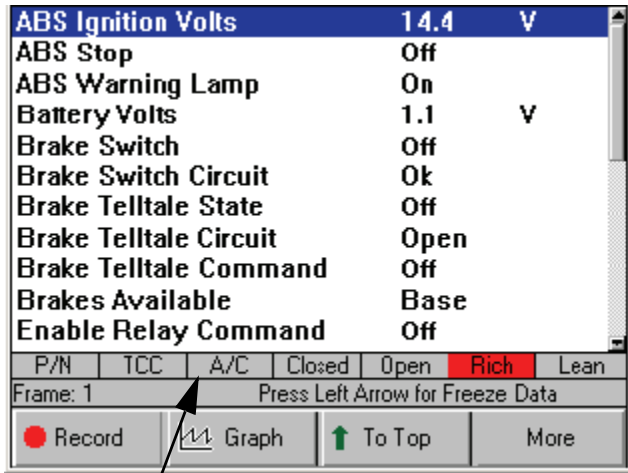

Figure 7.22: Datastream Screen - LED Bar Displayed
- 3 Press the **ENTER** key. (See Figure 7.22 on page 49.)